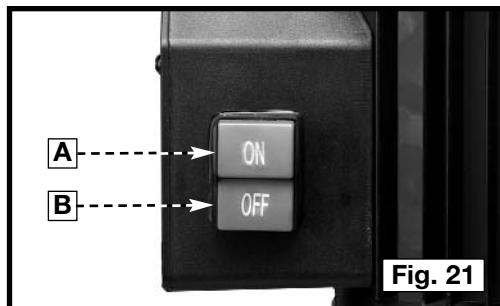

Fig. 21
The power switch is located on the left side of the mortiser. To turn the mortiser "ON", press the green start button (A) Fig. 21. To stop the mortiser, push the red button (B).